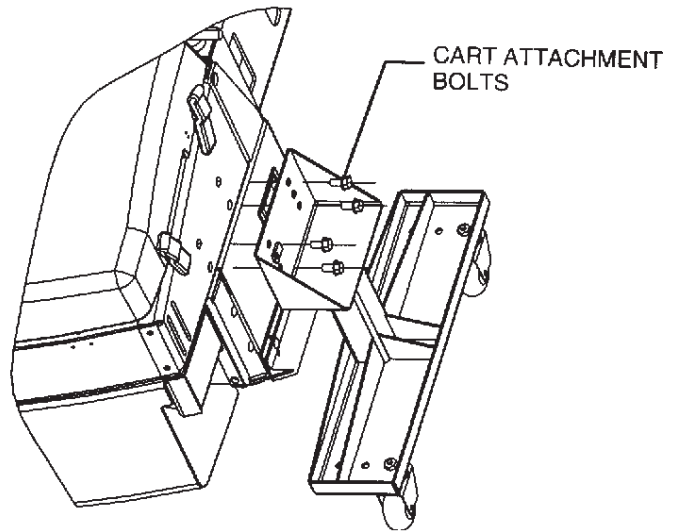
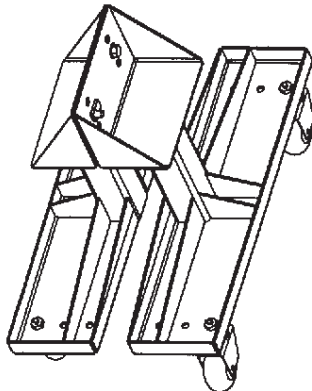

FIG 3 CART REMOVAL
FIG 4 CART STORAGE
7. Remove Sweeper carts (Fig. 3). Attach carts together and store (Fig. 4).
4. Attach carts to left and right side of machine using (4) bolts provided (Fig. 3).